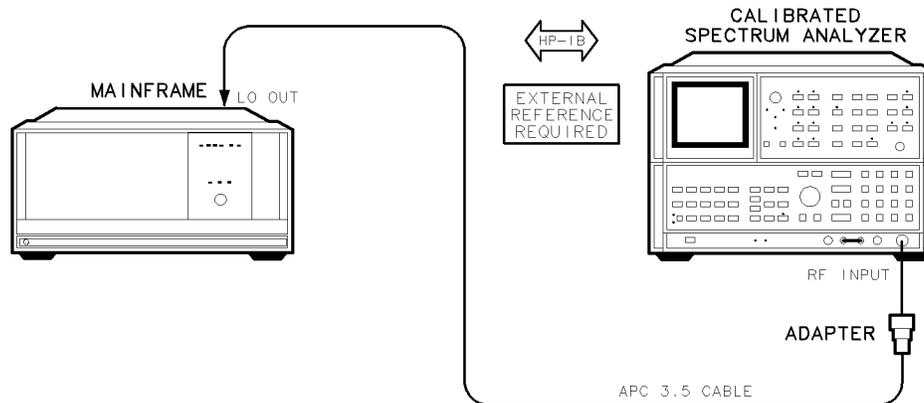

Figure 7-5. LO Output Spurious Response Test Setup
1. Connect the HP 8566B spectrum analyzer’s RF INPUT, with the external reference, to the DUT’s rear panel LO jack using the adapter, as shown in Figure 7-5.